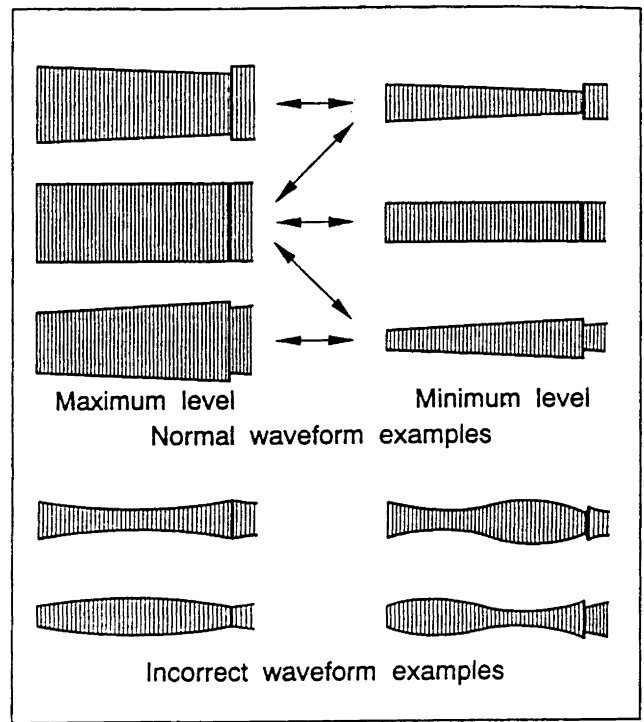

Fig. 2-7-1
- (1) Connect the oscilloscope to TP6(PB FM) on the PRE/REC board.Use TP11(D.FF) on the PRE/REC board as a trigger.
- (2) Playback the SP staircase portion of the alignment tape [MHPE].Confirm that the FM waveform appears as indicated in Fig.2-7-1.
- (3) Set the manual tracking position by pressing the **///** button on the remote controller or TV PROG '-' and '+' buttons simultaneously.
- (4) Operate the tracking adjustment (press the TV PROG buttons during playback) and set for maximum playback FM waveform.
- (5) By operating the TV PROG button,vary the FM waveform from maximum to minimum and vice versa to confirm that the waveform varies nearly in a flat shape as shown in Fig.2-7-1.